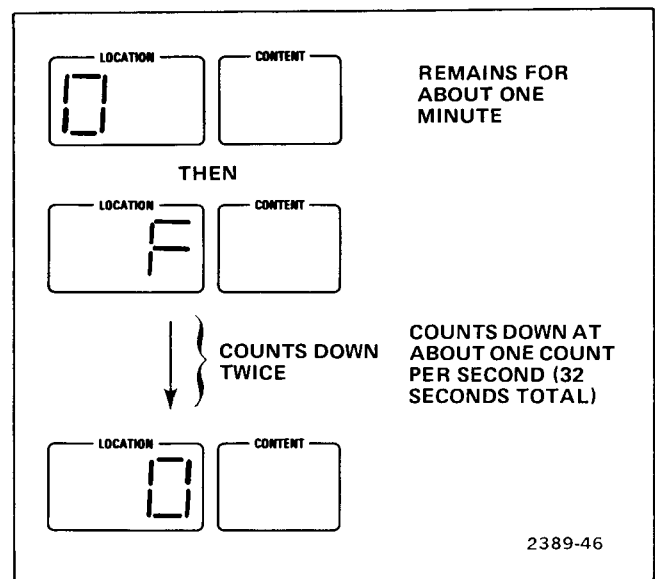

Figure 7-2. RAM check display.
k. CHECK—Displays shown in Figure 7-2 through 7-4 occur.